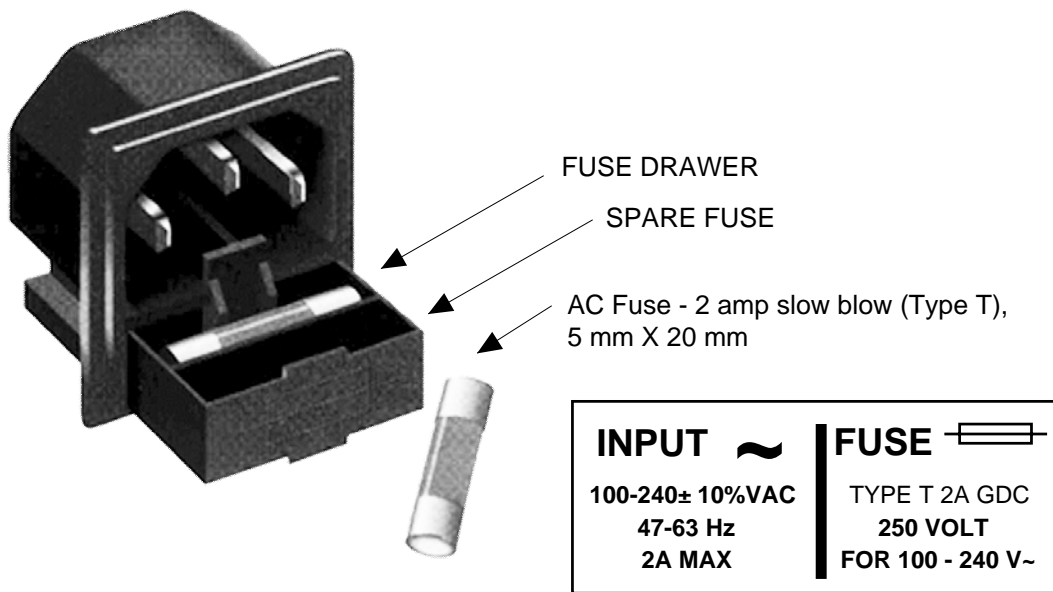

FIGURE 2.4 Fuse Location and Spare Fuse
6. AC Fuse - The fuse is a 5 mm X 20 mm, 2 amp slow blow (Type T) and is inserted in the far slot in the drawer below the AC input as shown in Figure 2.4. There is a spare fuse in the near slot. If a fuse continues to open, the power supply is most likely defective.